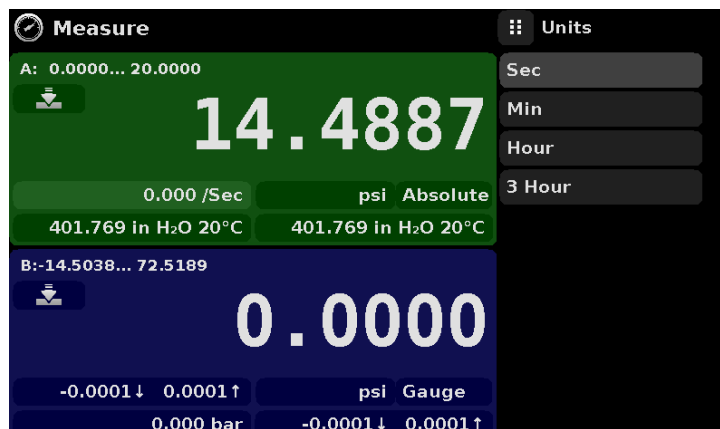

Figure 6.4.1.3 - Rate selected and unit options displayed
**Temperature:** This option is only available with CPT9000 and 0.008% accuracy CPR2550. (Fig 6.4.1.2)